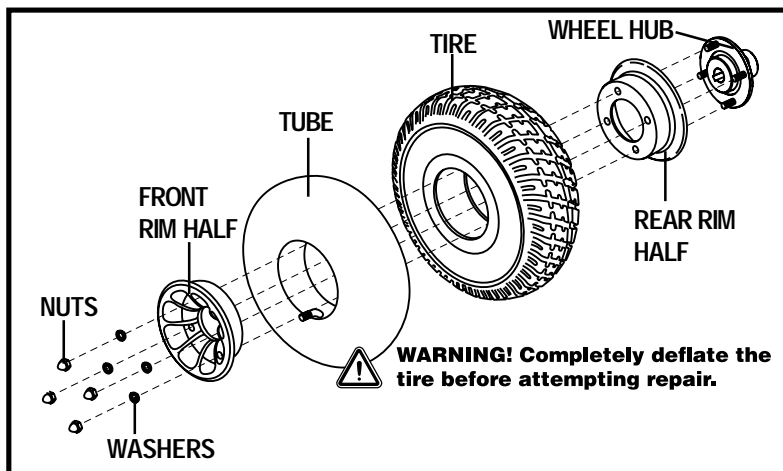

Figure 34. Drive Wheel Disassembled
6. Remove the nuts and washers from the wheel hub and separate the front and rear rim. See figure 34.